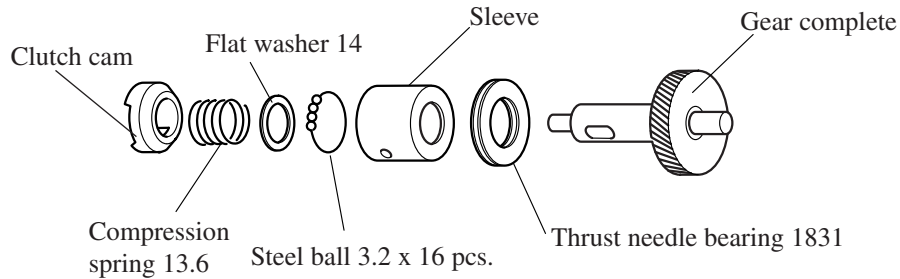

Fig. 7
(1) Assembling torque adjusting section See Fig. 7.